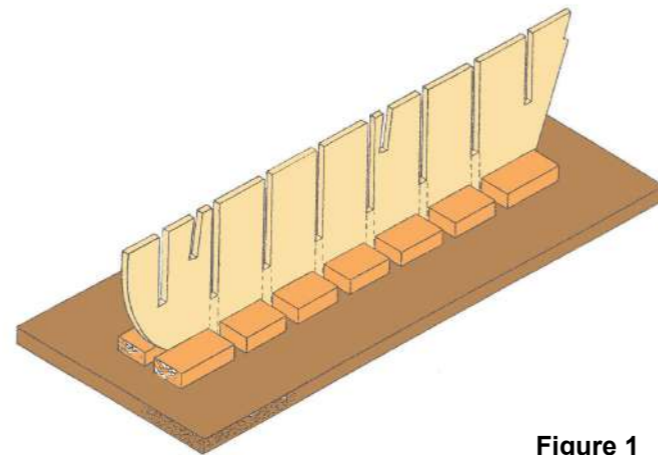

Figure 1
Step 3 You may wish to make a working base as shown Figure 1. This will help to ensure the keel does not become distorted. Cut the slots in the keel supports to correspond with the bulkhead frames.